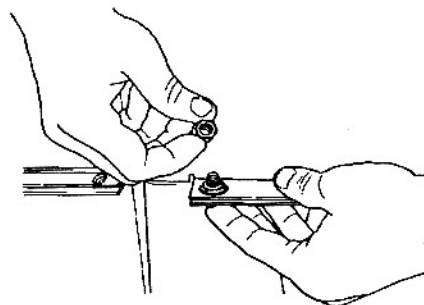

Fig. 9
13. Start a hex nut (26) on the bolt, as illustrated in Fig. 9, and finger tighten.